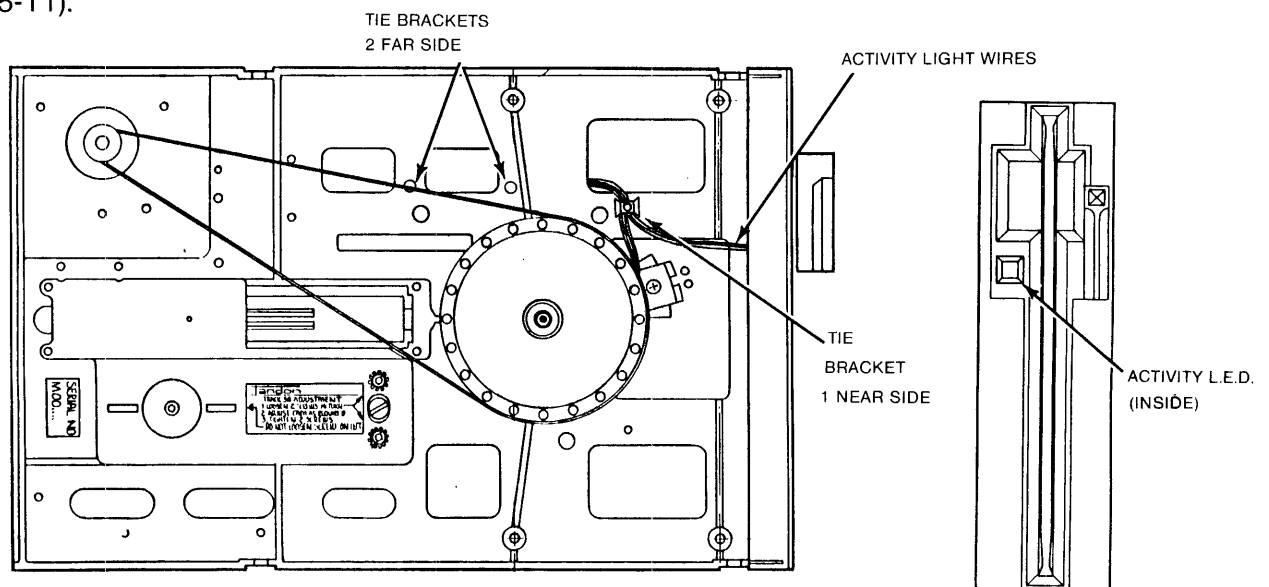

Figure 5-11
- B. Remove the brackets that hold the bundle of wires going to P11 from the chassis (see Figure 5-11).
- C. Attach the Activity L. E. D. wires to the chassis with brackets (see Figure 5-11).